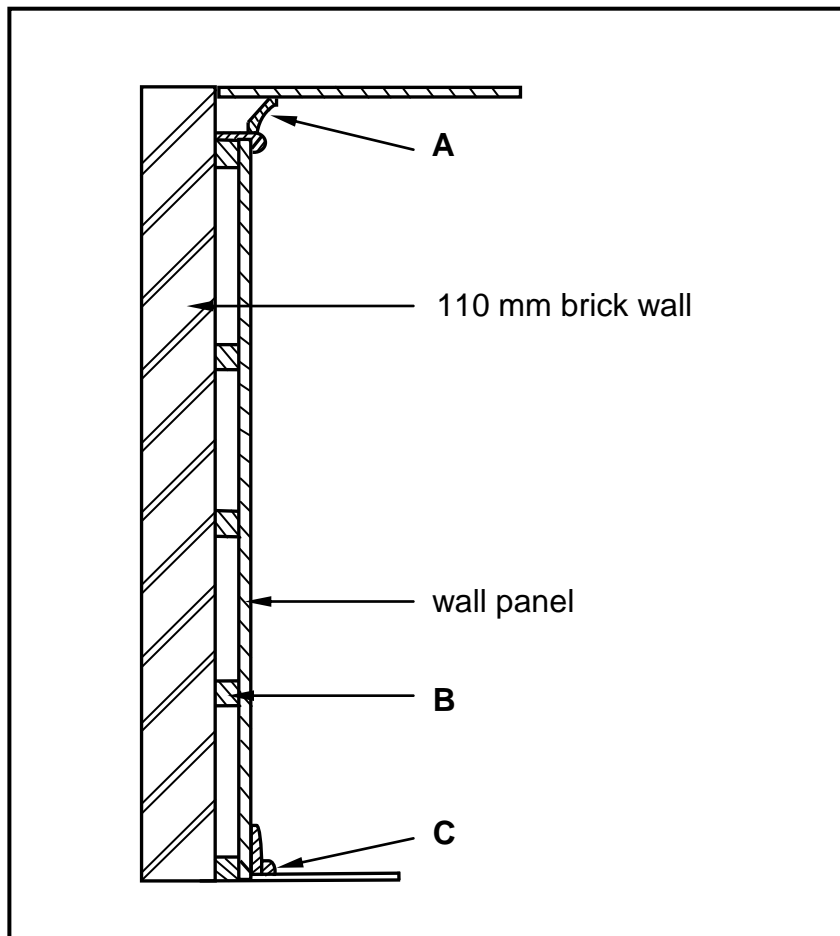

FIGURE 3.4
- 3.4 FIGURE 3.4 below shows the sectional view of a tongue and groove wall panel from the floor to the ceiling, fastened to a 110 mm thick wall. Study the drawing and answer the questions that follow.